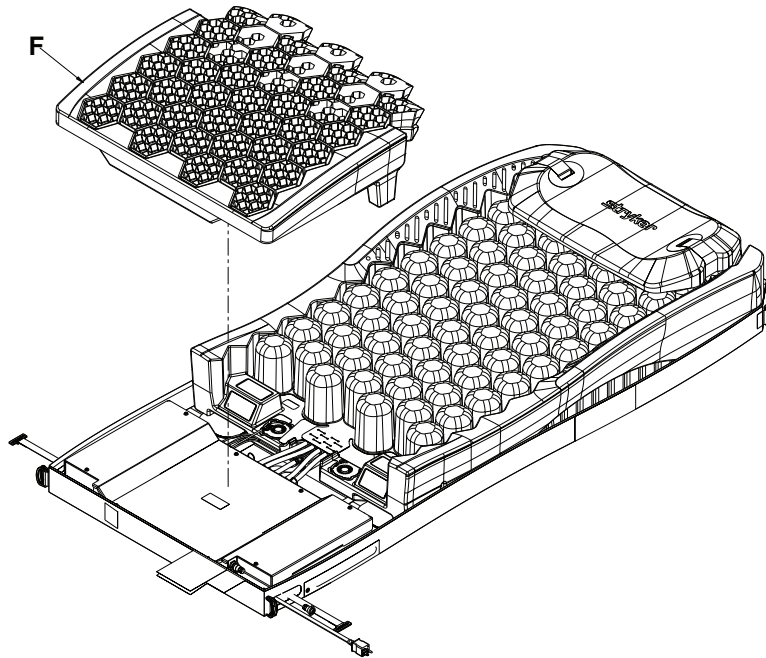

Figure 19 – Gel crib
11. Lift up and remove the foot section gel crib (F) (Figure 19). Save the gel crib.